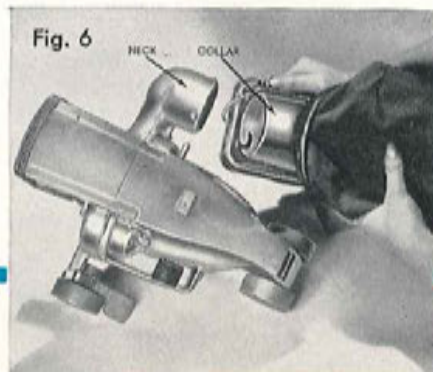

Fig. 6
STEP 2: Slide the collar firmly over the neck and twist downward. The unit will lock firmly in place. (See Figure 6)